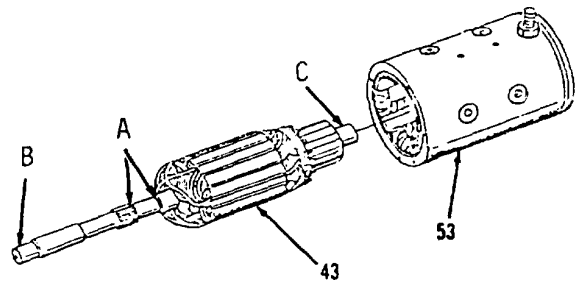
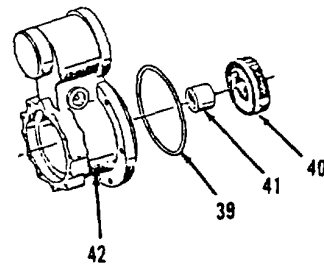
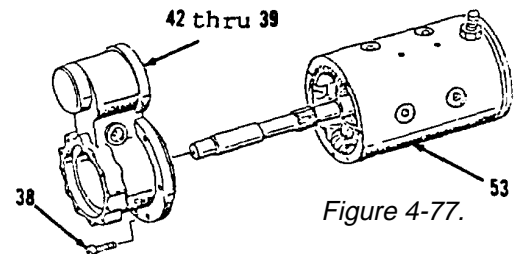

Figure 4-79.
Figure 4-78.
Figure 4-77.
6. Using clean grease, lightly lubricate points (A), (B) and (C) of armature (43, Figure 4-79) shaft. Apply clean lubricating oil to remaining areas of armature (43) shaft.
7. Install armature (43) in housing (53).
8. Using suitable driver and press, install new bearing (41) in housing (42, Figure 4-78).
9. Using clean grease, lubricate outer diameter of new seal (40).
10. Install new preformed packing (39) in groove of housing (42).
11. Using clean oil, lubricate outer diameter of new preformed packing (39).
12. Position items 42 thru 39 as an assembly on housing (53, Figure 4-77) alining matchmarks.
13. Install six screws (38) and tighten to 9 ft-lb torque.